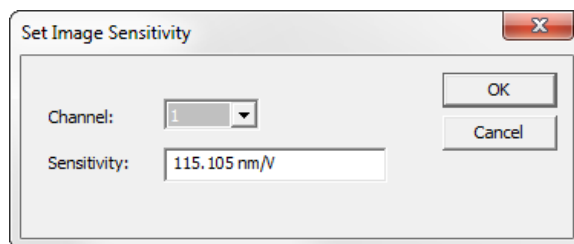

Figure 4.5b: Set Image Sensitivity window
2. The **Set Image Sensitivity** window, shown in Figure 4.5b, will appear enabling you to switch channels and modify the sensitivity as desired.